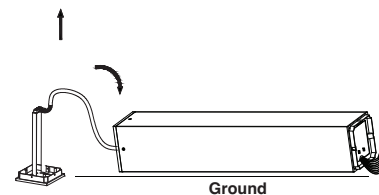

Fig. 6
5. Lay the fixture down by the side of the installed anchor bolts. Keep the wires connected. (Fig 6)